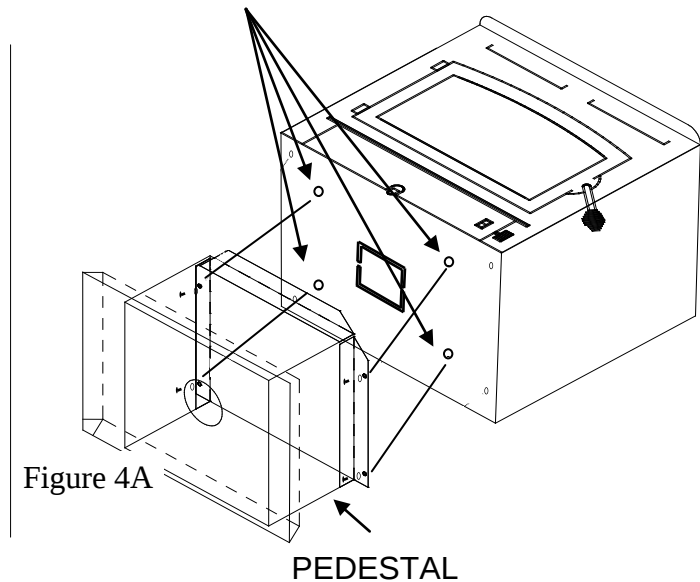

Figure 4A
6. **(Pedestal Kit):** If pedestal kit is being used and out side air is required for residential free standing installation (see page 25 *Out Side Air Installation*). Open freestanding kit and obtain stand. Place stand against bottom of heater (angle side to heater). Center stand front to back and also center stand left and right. Mark screw locations on bottom of stove through outer holes of stand mounting angles. Set stand aside and drill four 7/32" holes in heater bottom. Then mount stand to bottom of heater with screws provided. (See Figure 4A).
7. Obtain four (4) 3/16" self-tapping screws and secure stand to heater.